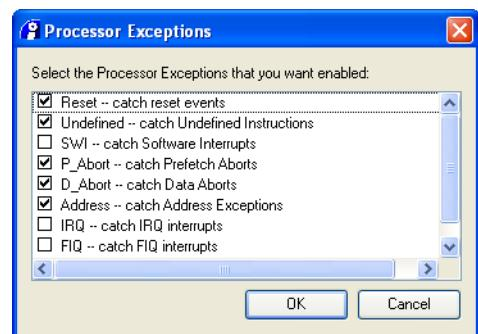

Figure 11-39 Processor Exceptions list selection dialog box
1. Select **Processor Exceptions...** from the **Debug** menu to display the Processor Exceptions dialog box. Figure 11-39 shows an example, which lists the processor exceptions for an ARM architecture-based processor connected through RealView ICE.